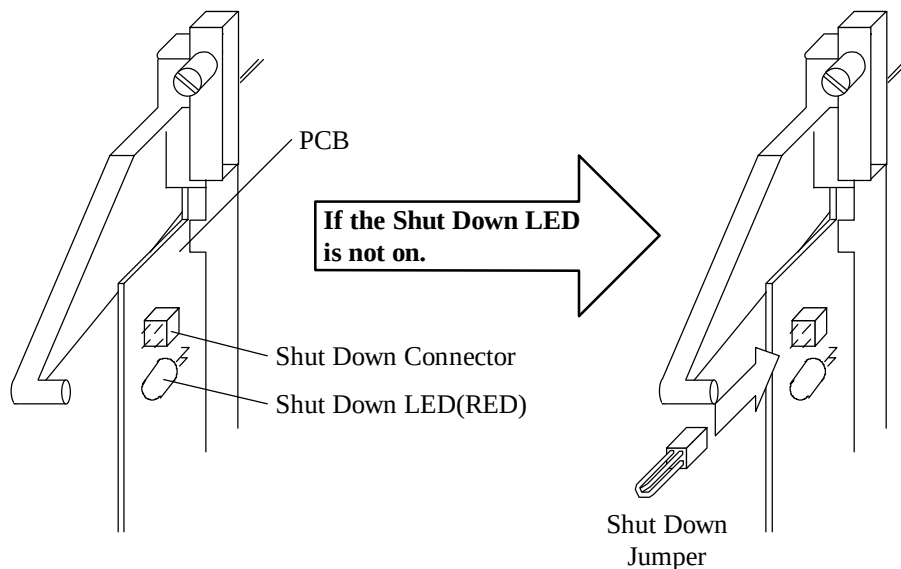

Fig. 4.7.3-1 Shut Down LED
- a. Confirm that Shut Down LED is on.(Fig. 4.7.3-1). If the LED is not on, connect the Shut Down Jumper to the Shut Down Connector.
- a. Remove the Bracket^③ and Strain Relief^② referring to Fig. 4.7.3-2.